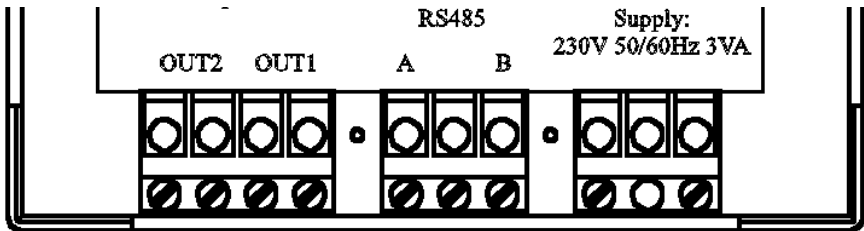

Figure 16.5
4. Make the connection for aux. supply (see figure 16.5 page 34).
5. Make the connection for communication RS 485 as shown in figure 16.4 below (also see figure 16.5 page 34).